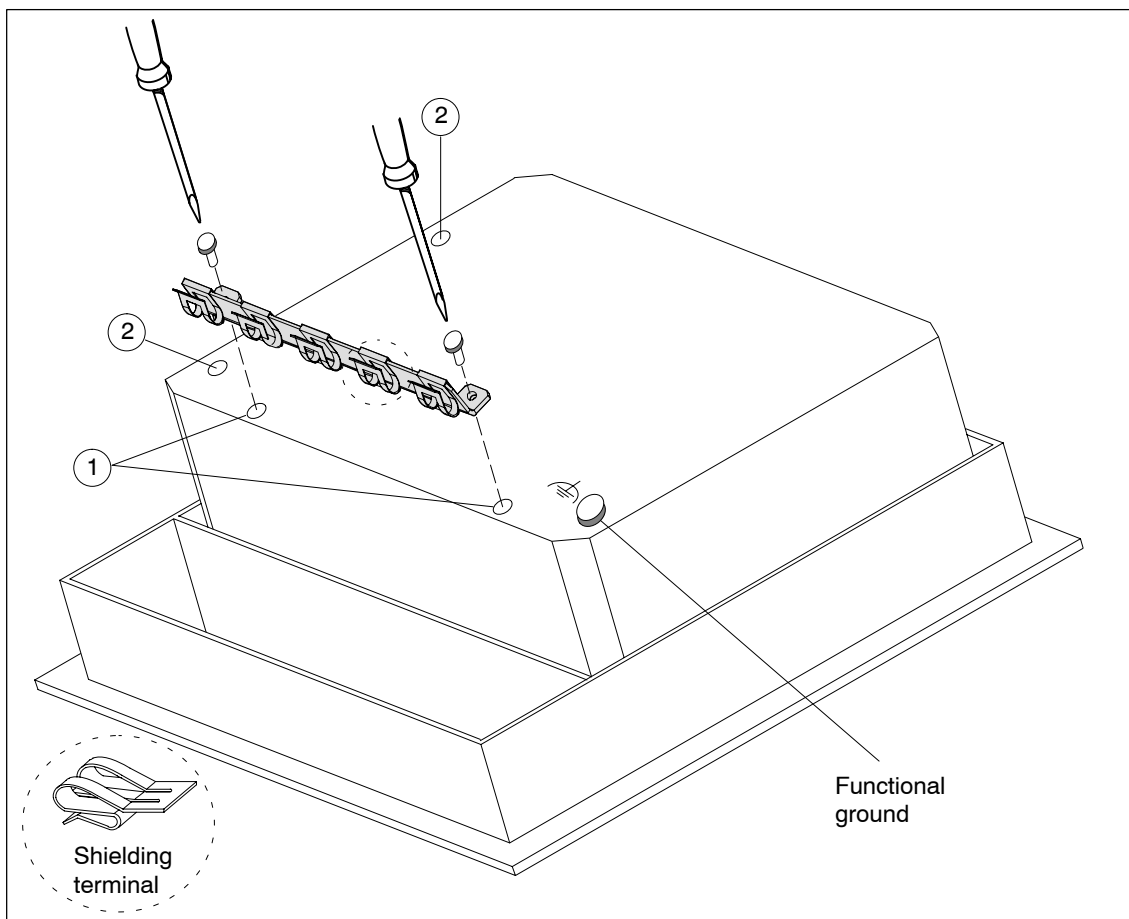

Figure 3-17 C7-635 with grounding busbar, shielding terminals, and terminal for functional ground
Connect the functional ground  (see Figure 3-17) to the cabinet ground with a cable lug and a cable with a minimum cross section of 4 mm2.
1. Mount the grounding busbar at the position shown in Fig. 3-17, using the included screws (1) or, as an alternative, at this position (2).
2. Install the shielding terminals on the grounding busbar as shown in Fig. 3-17.